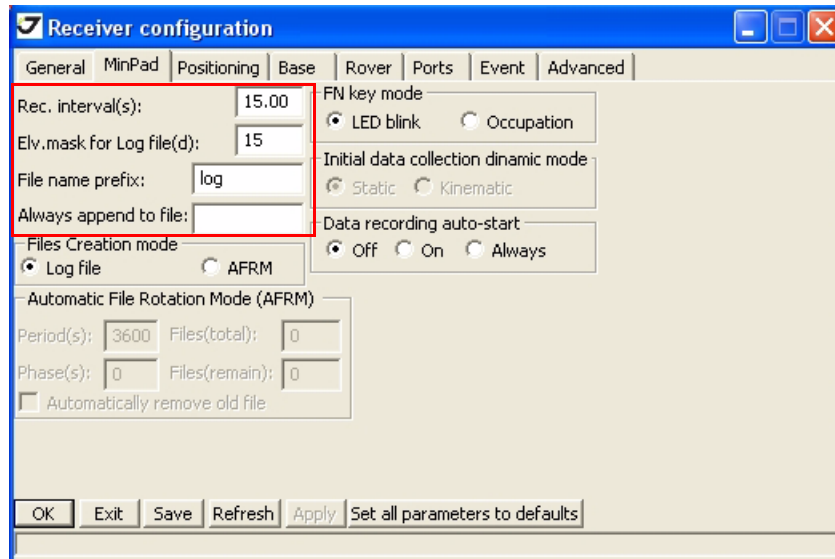

Figure 3-3. Configure Receiver Positioning – MinPad for data recording
- Click the *MinPad* tab and configure the following settings (Table 3-1), then click *Apply* (Figure 3-3 on page 33).